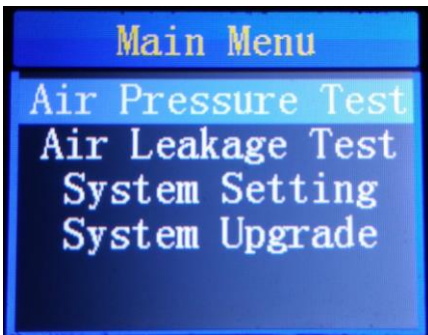

Figure 1
1. Enter the **Main Menu** and use the UP/DOWN button to select **Air Pressure Test** (Figure 1), confirm your selection with ENTER.